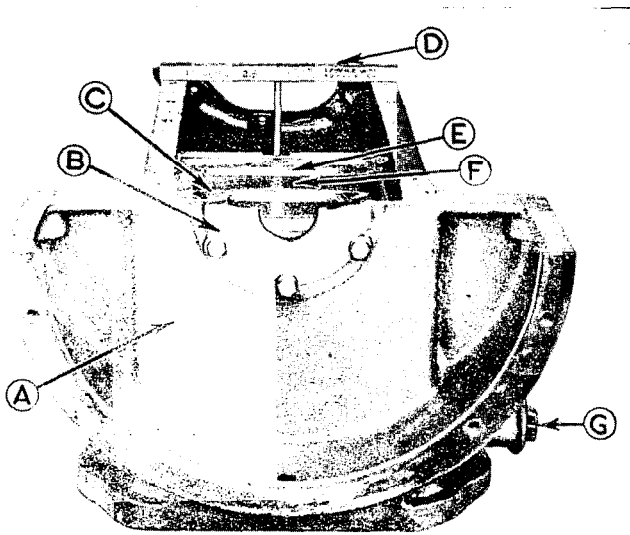

Figure 26
a. *Height of Baffle Plate.* Figure 26 shows the correct way to check the height of the oil baffle plate in the oil base. The baffle plate is in correct position when the drain slots in the end of the plate are 2-11/16 inches from the top of the oil base. If the baffle plate is too high, the engine may pump oil because too much oil is splashed on the cylinder walls. If the plate is too low, the connecting rod bearing will not receive enough lubrication and may burn out. To adjust position of plate for correct dip, loosen the capscrews holding it to the oil base. Raise or lower plate to correct position and tighten the screws.